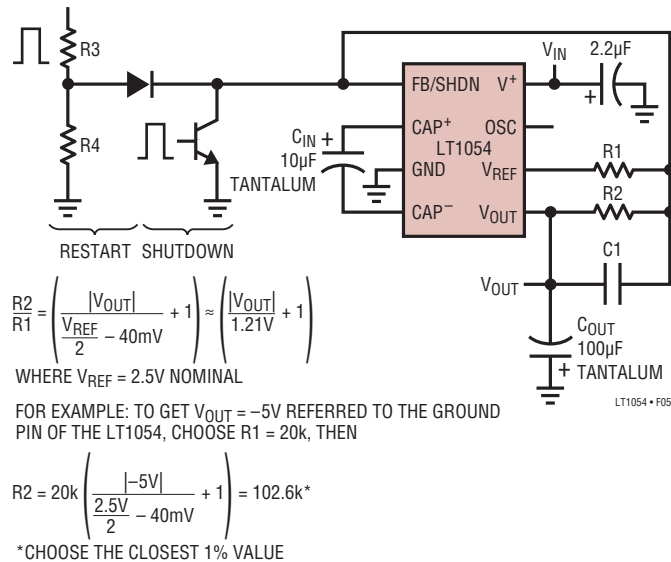

Figure 5
**FB/SHDN (Pin 1):** Feedback/Shutdown Pin. This pin has two functions. Pulling Pin 1 below the shutdown threshold ( $\approx 0.45V$ ) puts the device into shutdown. In shutdown the reference/regulator is turned off and switching stops. The switches are set such that both  $C_{IN}$  and  $C_{OUT}$  are discharged through the output load. Quiescent current in shutdown drops to approximately  $100\mu A$  (see Typical Performance Characteristics). Any open-collector gate can be used to put the LT1054 into shutdown. For normal (unregulated) operation the device will start back up when the external gate is shut off. In LT1054 circuits that use the regulation feature, the external resistor divider can provide enough pull-down to keep the device in shutdown until the output capacitor ( $C_{OUT}$ ) has fully discharged. For most applications where the LT1054 would be run intermittently, this does not present a problem because the discharge time of the output capacitor will be short compared to the off-time of the device. In applications where the device has to start up before the output capacitor ( $C_{OUT}$ ) has fully discharged, a restart pulse must be applied to Pin 1 of the LT1054. Using the circuit of Figure 5, the restart signal can be either a pulse ( $t_p > 100\mu s$ ) or a logic high. Diode coupling the restart signal into Pin 1 will allow the output voltage to come up and regulate without overshoot. The resistor divider  $R3/R4$  in Figure 5 should be chosen to provide a signal level at pin 1 of  $0.7V$  to  $1.1V$ .
The error amplifier of the LT1054 servos the drive to the PNP switch to control the voltage across the input capacitor ( $C_{IN}$ ) which in turn will determine the output voltage. Using the reference and error amplifier of the LT1054, an external resistive divider is all that is needed to set the regulated output voltage. Figure 5 shows the basic regulator configuration and the formula for calculating the appropriate resistor values. R1 should be chosen to